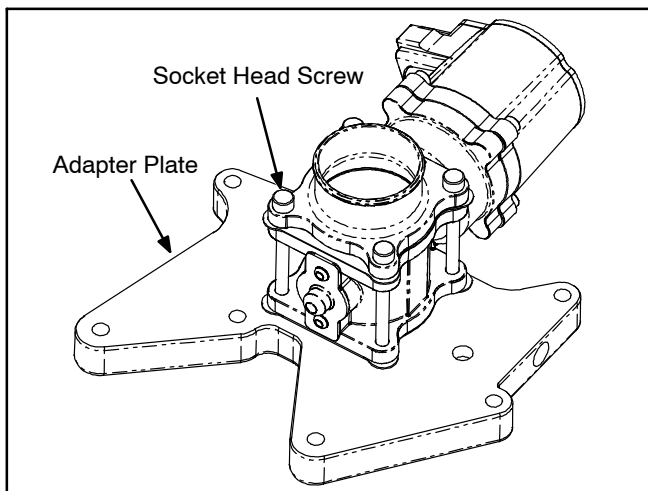

FIGURE 2. GOVERNOR ASSEMBLY FOR KIT A034E251
7. For **governor kit A034E251**, install the governor actuator (see Figure 2) on the adapter plate (0154–3131 – not included in this kit). Torque the socket head screws to 5.4–6.8 N•m (48–60 in-lbs).